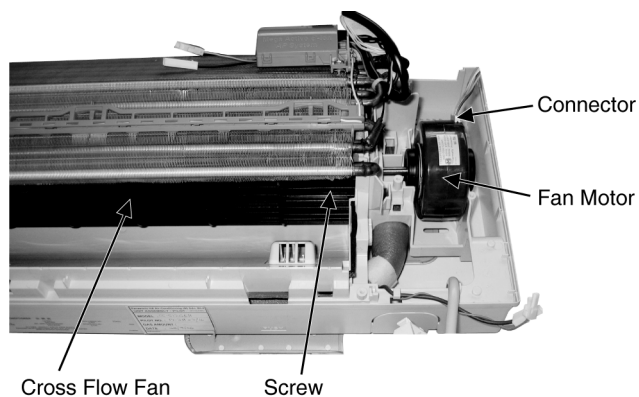

Fig. 10
- Remove the screw at the Cross Flow Fan. (Fig 10)
- Reminder:- To reinstall the Fan Motor, please adjust the connector location to 45° with Fan Motor before fixing Control Board. (Fig. 10)